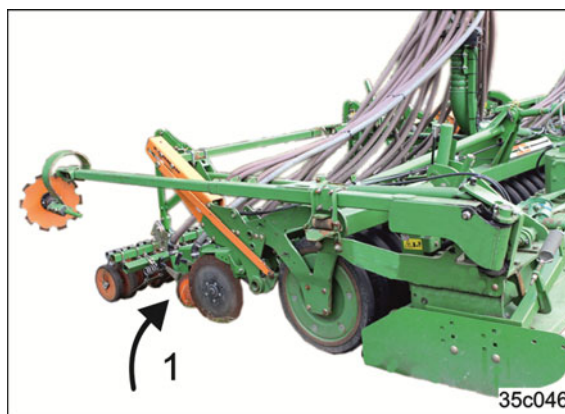

Fig. 118
- Swivel both track markers into transport position (see Fig. 118/1). Both track markers must be raised for transporting the implement. The track markers are hydraulically locked.